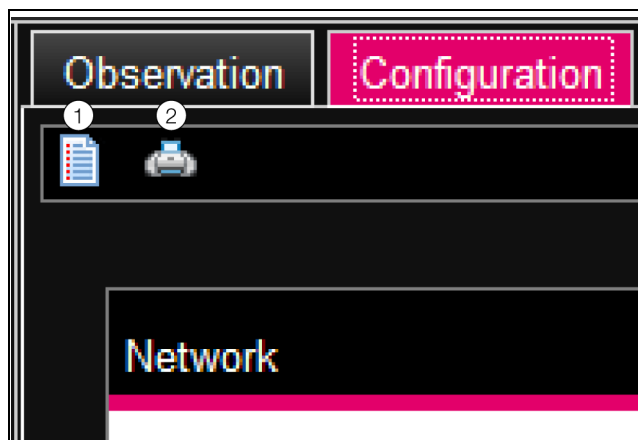

Fig. 37: Summary of current settings
If the complete system "Processing Unit" has been selected, the operator may display (left button fig. 37, item 1) or print (right button fig. 37, item 2) a summary of the current settings using the two buttons in the top section of the **Configuration** index tab.